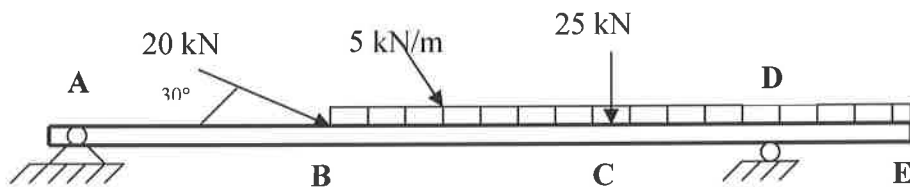

Figure Q6
6. Figure Q6 below shows a loaded uniform beam ABCDE which is supported at A by a pin and at D by a roller. Lengths: AB = BC = 2 m; CD = DE = 1 m.